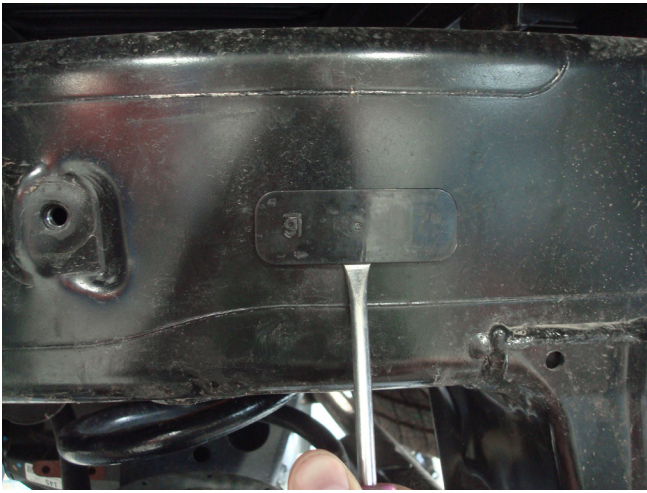
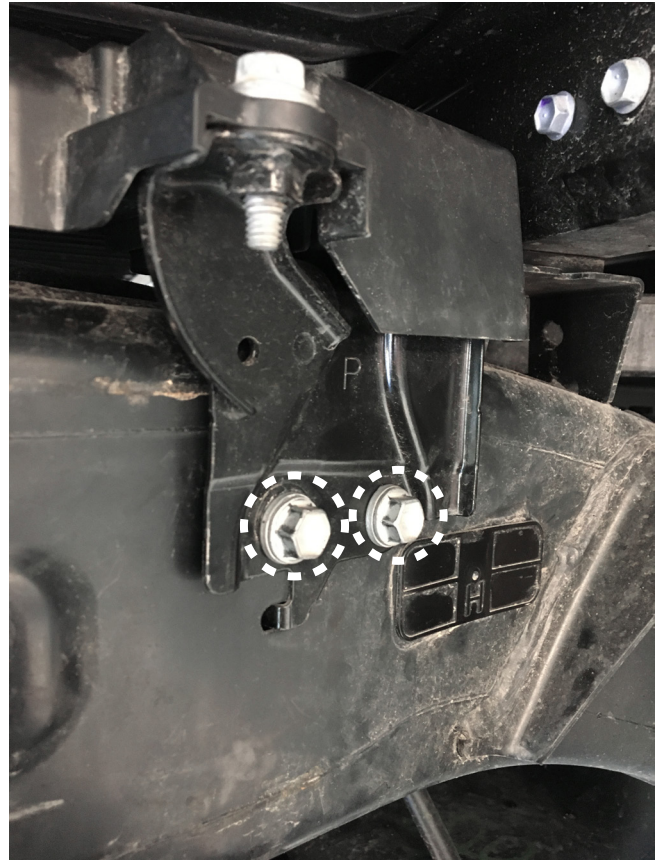

Fig. 5
Fig. 6
- Use a small prybar or flathead screwdriver to pry off the two plastic covers, removing one from each side (Fig. 5). On the passenger's (right) side, you will also have to remove a module. After removing these two bolts (Fig. 6) with a 12mm socket or wrench, tuck the module out of the way for now.
4. Using one of the previously removed module bolts from step 3 (Fig. 6) of the *Prepare the Vehicle* section with an M8 washer (R) and M8 lock nut (Q), attach the module to the upper brace (Fig. 18). Torque to 18 lb.-ft. (24Nm).